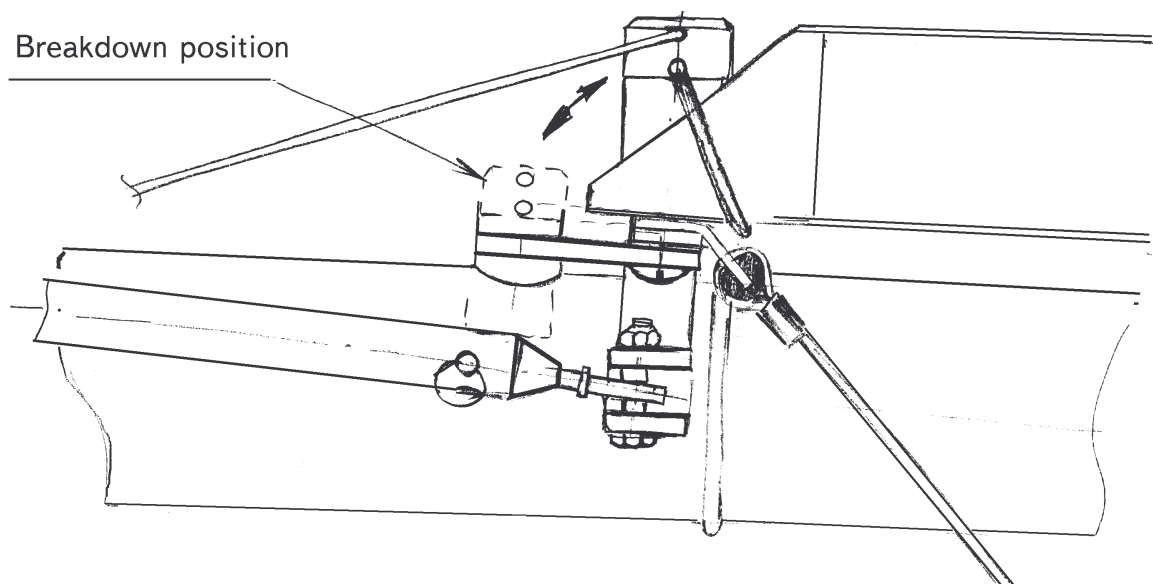

Fig. 2
2.1.5. Install the dive sticks to the corresponding places on the LE-tube/X-beam junctions. Attach the dive sticks using pins and safety rings (Fig. 2). The dive sticks must be outside of the bottom surface.